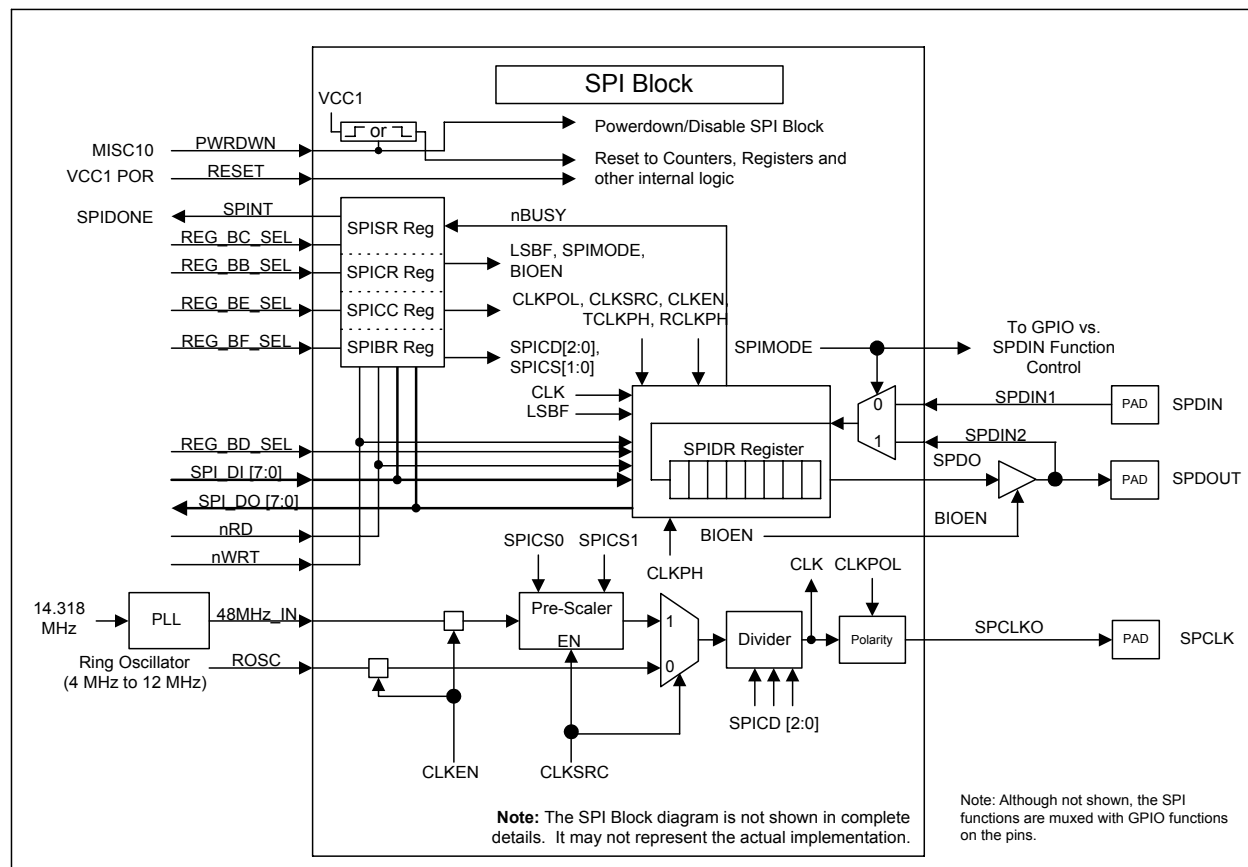

Figure 16.1 SPI Block Diagram
Figure 16.1 shows the SPI block diagram. See Section 16.3, "Interface Description," on page 176, Section 16.4, "SGPIO vs. SPI Function Control," on page 177, Section 16.7, "SPI Registers," on page 179, and Section 16.8, "SPIDONE - 8051 Interrupt," on page 185 for description on SPI block signals, SPI pins and registers.
- The LPC47N350 SPI can be configured to operate in two modes: Full Duplex and Bidirectional (see Figure 16.1 on page 175). See Section 16.5.1, "Full Duplex Mode" and Section 16.5.2, "Bidirectional Mode" for detailed descriptions of each operating mode.
- In Full Duplex Mode, serial data is transmitted and received simultaneously by the SPI master over two separate data transmission lines as shown in Figure 16.1 on page 175. See Section 16.7.1.2, "D1 - SPIMODE - SPI Mode," on page 180 for SPI mode configuration.
- Input and output serial data share the SDO pin, as shown in Figure 16.1 on page 175 using the BIOEN bit (See Section 16.7.1.3, "D2 - BIOEN - Bidirectional Mode Output Enable," on page 180).
- The LPC47N350 SPI can be configured to run from the Ring Oscillator or a PLL source (See Section 16.7.4.3, "D2 - CLKSRC - SPI Clock Source," on page 183 and Section 16.7.4.4, "D3 - CLKEN - Clock Enable," on page 183). The PLL uses the 14.318 MHz input clock and is active under VCC2 power only. The Ring Oscillator frequency range is from 4MHz to 12 MHz. See Figure 16.1.
When the SPI is configured for Bidirectional Mode (see Section 16.7.1.2, "D1 - SPIMODE - SPI Mode"), the BIOEN bit controls access to SDOOUT. When BIOEN is deasserted '0', the SDOOUT signal is configured as the serial data input. When BIOEN is asserted '1', the SDOOUT signal is configured as the serial data output. See Figure 16.1 for details.